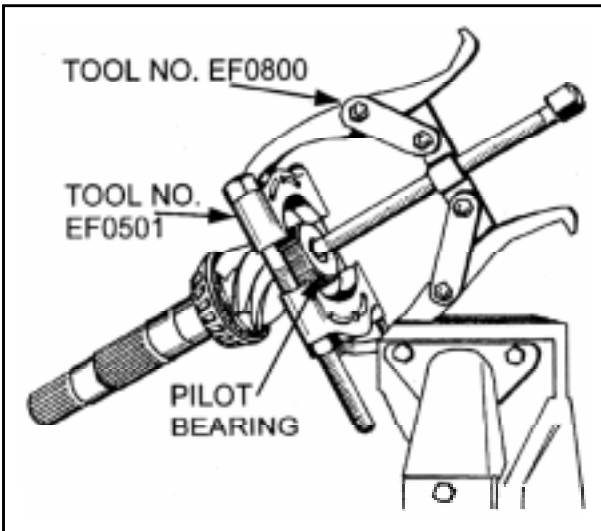

Figure 17
6. If it is necessary to remove the right-hand cone and roller assembly use Tool Nos. EF-0501, EF-0800 & step plate adaptor. Refer Figure 17.
6. Remove the lock ring from the rear end of the pinion gear and using Tool Nos. EF-0800 and EF-0501 pull the pilot bearing off the pinion gear, Figure 17.